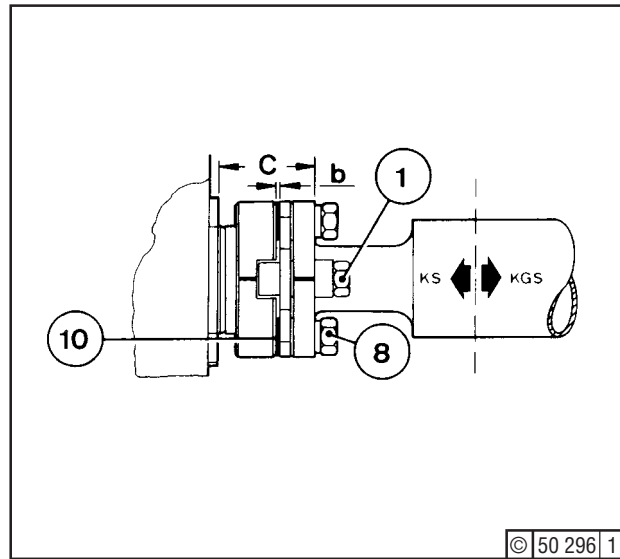

Fig. 6
- Move shaft to both end positions - drive end and free end - Fig. 6.
- Determine thickness of shims (10) - Fig. 6: max. dimensions "b" minus half clearance.
- Insert fitted bolts (1) - Fig. 6 - and secure hand-tight alternately with fitted bolts (8).